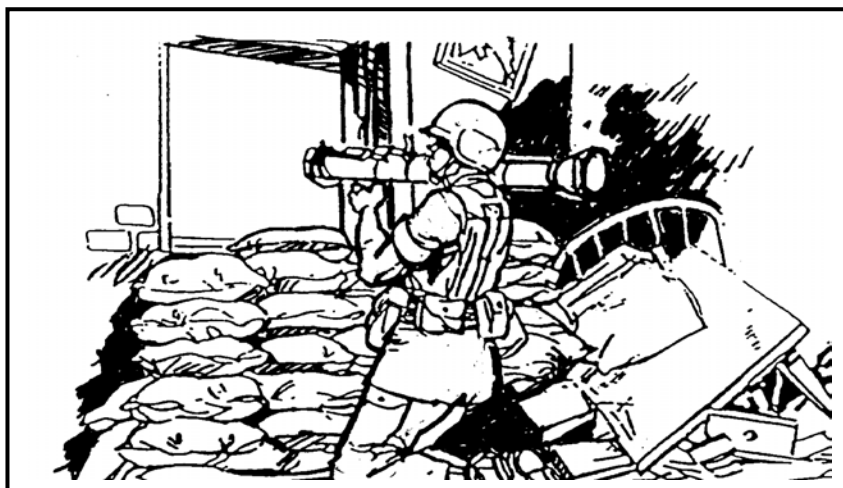

Figure 7-5. Firing an 84-mm Carl Gustaf recoilless rifle, an AT4, or SMAW-D from inside a building.
(5) To fire an 84-mm Carl Gustaf recoilless rifle, the AT4, or SMAW-D from inside a room, the following safety precautions must be taken (Figure 7-5).